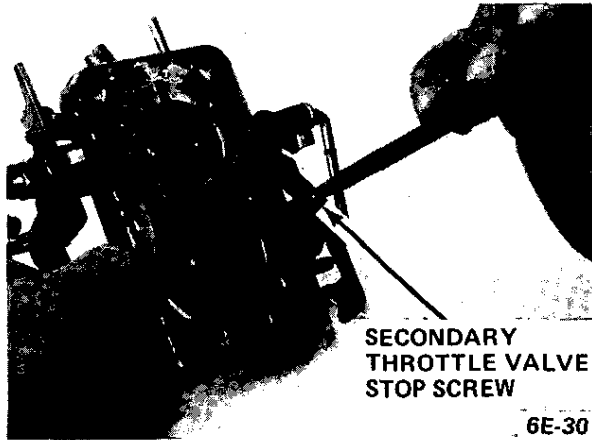

Figure 6E-30 Adjusting Secondary Throttle Valve Gap
24. Install accelerator pump connecting rod in lower hole of primary throttle shaft lever and cotter pin in outboard hole at accelerator pump actuating lever end. Paying attention to proper arrangement of cotter pin and washers. See Figure 6E-2.